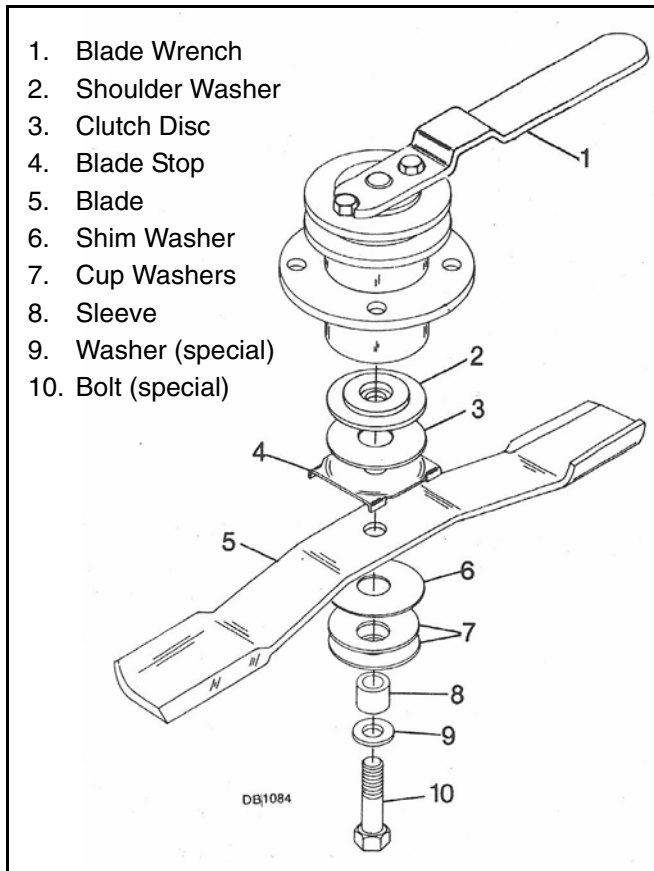

Figure 3. Blade Assembly
See Figure 3. Install blade wrench over spindle pulley bolts to prevent spindle from rotating while removing bolt (10) which has left hand threads. Then remove special washer (9), sleeve (8), cup washers (7), shim
See Figure 3. Assemble shoulder washer (2) small end up (if removed). Install remaining parts in reverse order of disassembly. Ensure blade cutting edge is positioned to lead in counter-clockwise rotation, as viewed from top of mower.